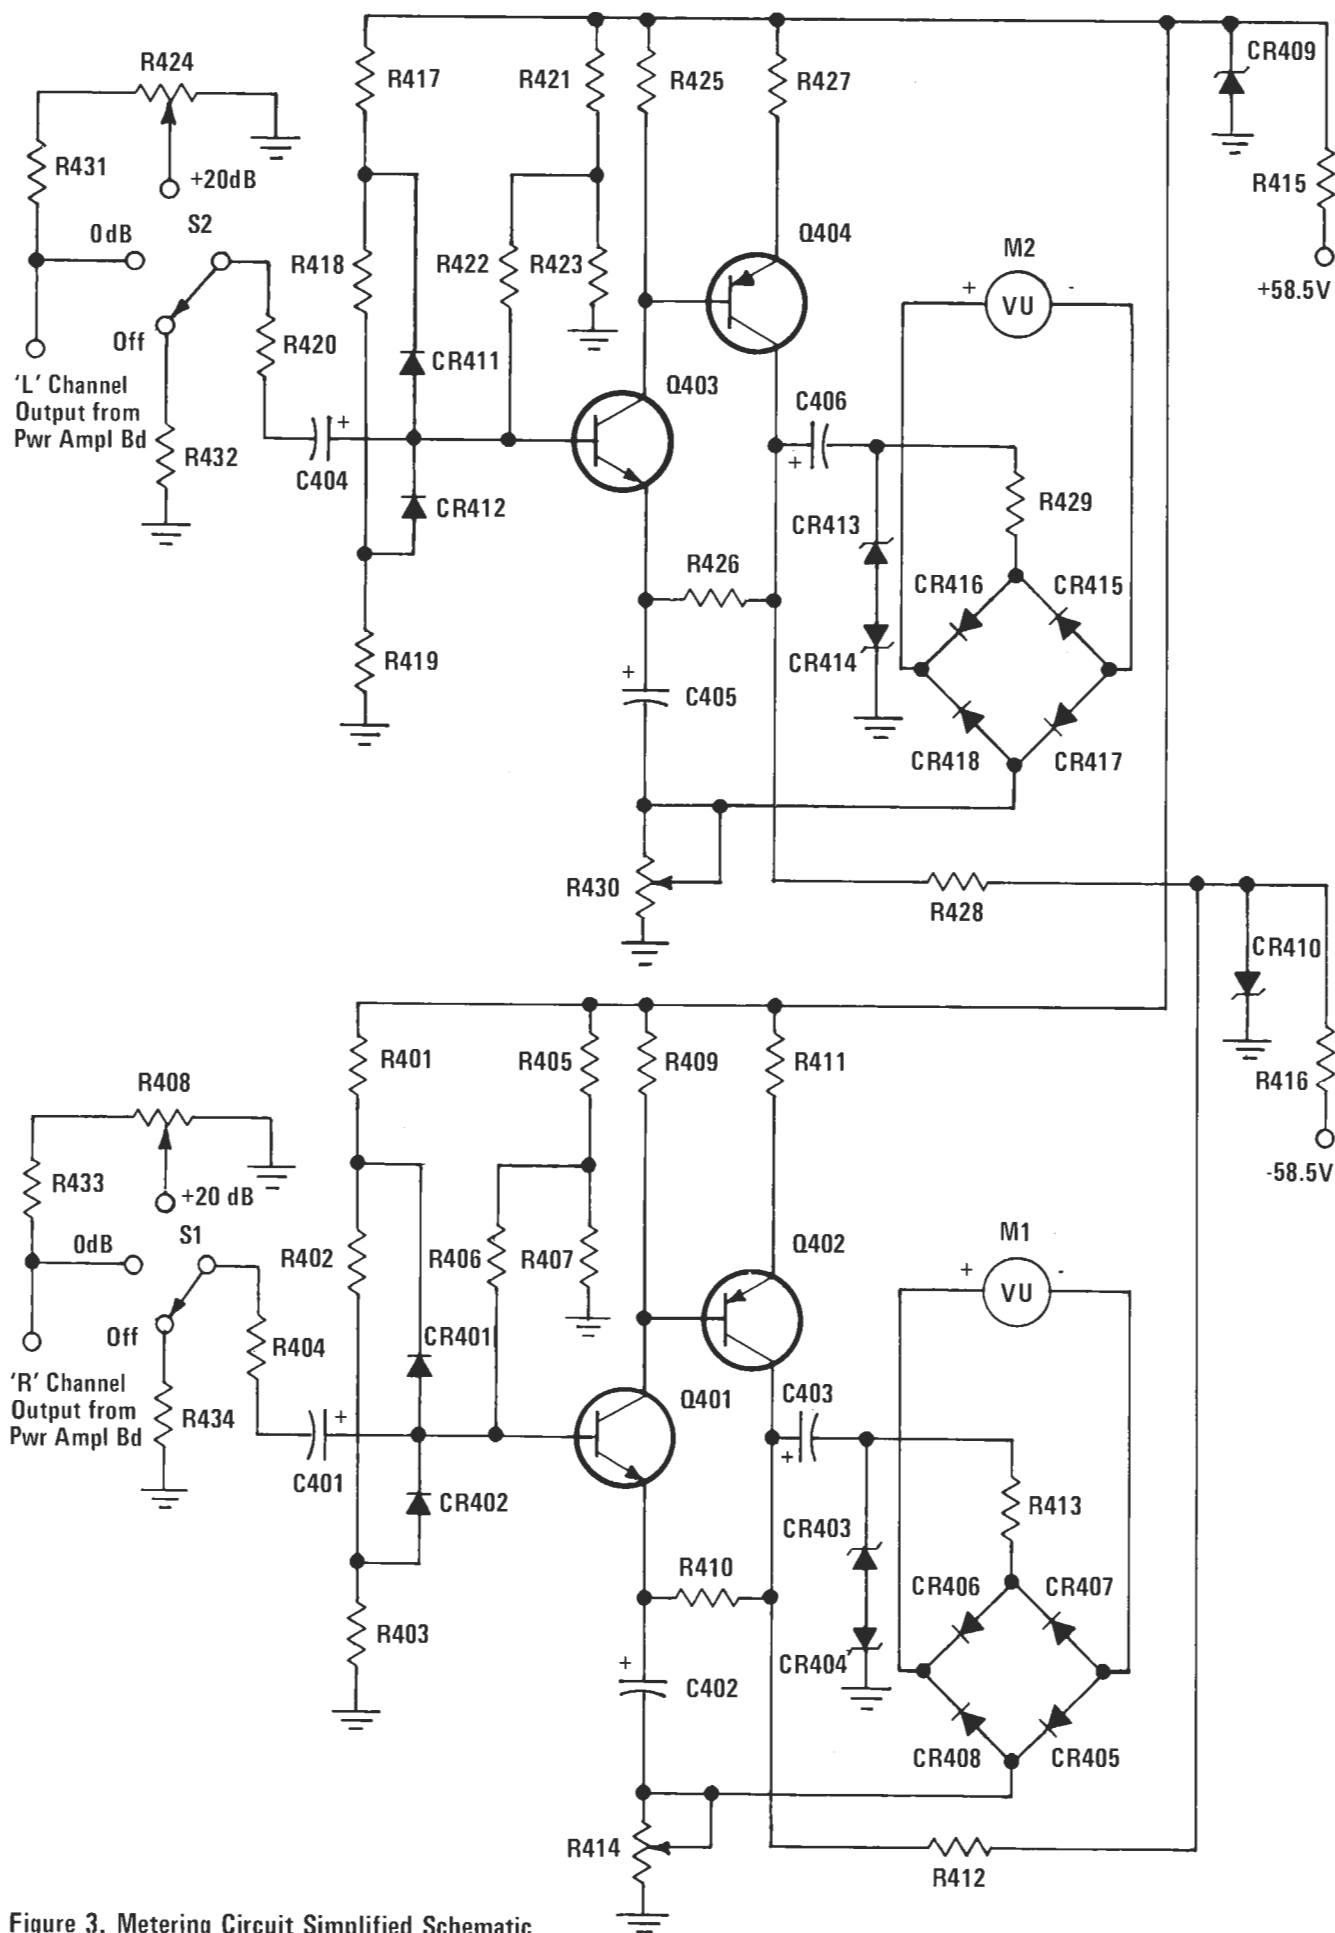
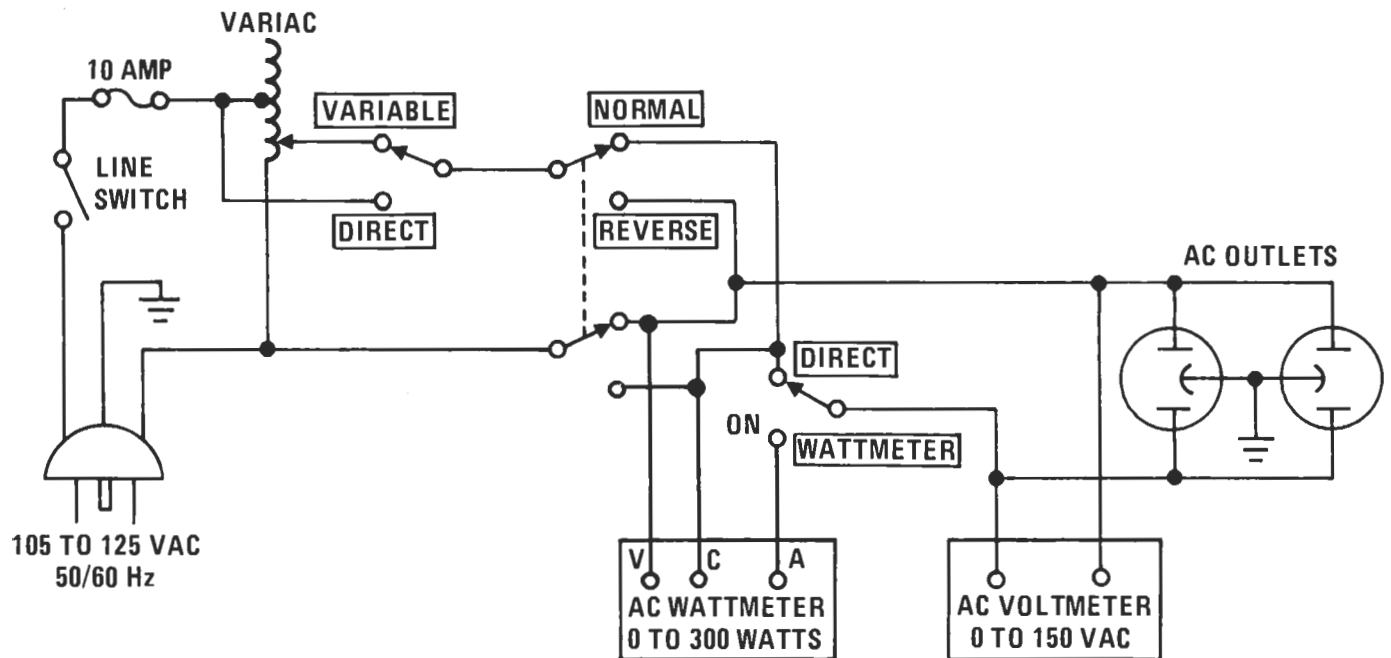

Figure 3. Metering Circuit Simplified Schematic
Figure 4. AC Power Control Box Simplified Schematic
- Replace Figure 3. (Metering Circuit Simplified Diagram) with Figure 3 contained herein.
- Page 7— In Table 1, for "AC Power Control Box," replace "Fabricate in accordance with Figure 3." with "Fabricate in accordance with Figure 4.,"; for "Amplifier Output Load Box," replace "Fabricate in accordance with Figure 4." with "Fabricate in accordance with Figure 5."
Page 10— Replace Figure 4. (AC Power Control Box Simplified Schematic) with Figure 4. contained herein.